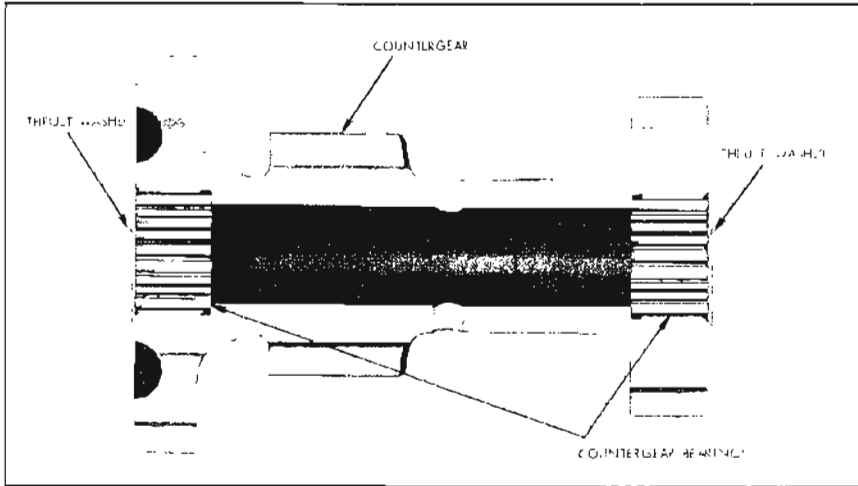

Figure 4-27—Counter gear and Bearings
6. Place some cup grease in the roller bearing area on each end of counter gear. Insert Tool J-5777 in counter gear. Install 25 roller bearings in each end. Apply grease to bearing thrust washers; place one of each at each end of counter gear. See Figure 4-27.